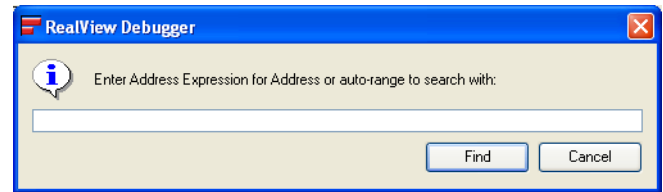

Figure 9-9 Finding an address expression match
1. Select **Find Address Expression...** from the **Find** menu to display the Prompt dialog box. Figure 9-9 shows an example: